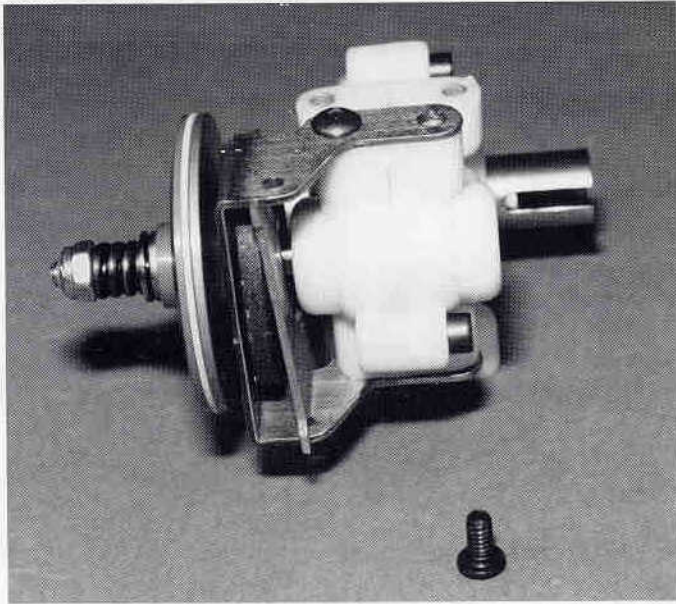

Fig. 93
- **Figs. 93 & 94** Mount the brake bracket and shoe onto the transmission. The bracket will be on the outside of the brake disc and the steel brake shoe will be on the inside of the brake disc. The rounded notch in the bracket and shoe are there to clear the brake disc hub. Bolt the bracket to the transmission as shown in the top mounting holes of the brake bracket using the two #6919 BHSScrews. The bottom of the brake bracket will be secured when we bolt the tranny to the chassis.